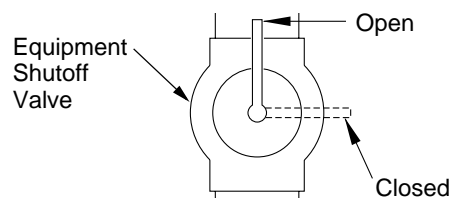

Figure 17 - Equipment Shutoff Valve
1. Close equipment shutoff valve (see Figure 17).
1. Open equipment shutoff valve (see Figure 17).